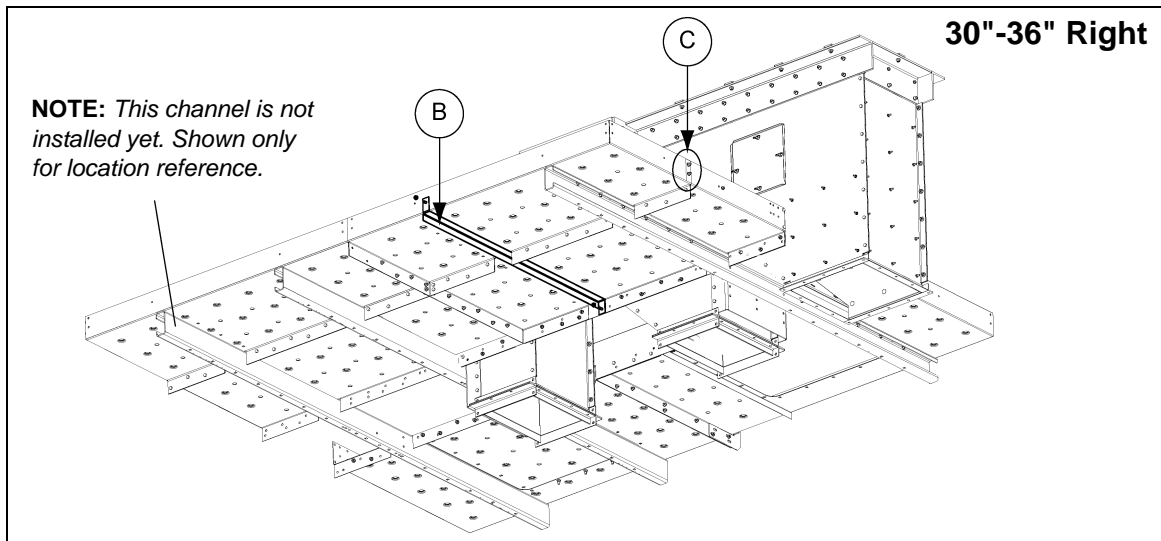

Figure 8N
- 5. Orient Deck F flange outside of Deck C flange. (See Figure 8N on Page 59.)
7. Install the head platform hatch deck support (HP1648HDS) (B) under Deck C and Deck F using 3/8" x 3/4" bolt (S-7105) and nut. (See Figure 8N.) **NOTE:** You may need to remove a bolt from the toe board if one was installed in this location.